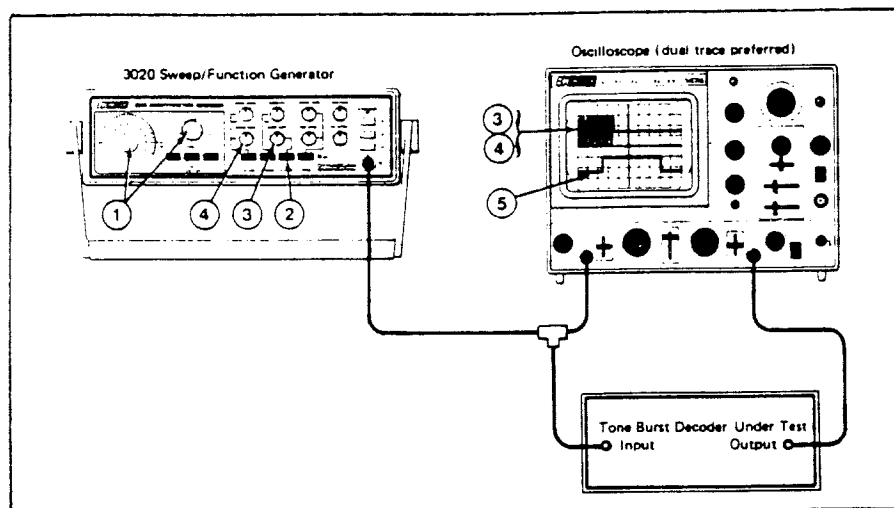

Fig. 20. Tone burst decoder testing.
The following procedure, along with Fig. 20, describes the typical testing method for tone burst decoders:
1. Connect equipment as shown in Fig. 20. Set the RANGE switch and FREQ dial to the decoder's acceptance frequency. This should be found in the manufacturer's service literature, or may be marked on the unit. Use a frequency counter if a high degree of accuracy is required.